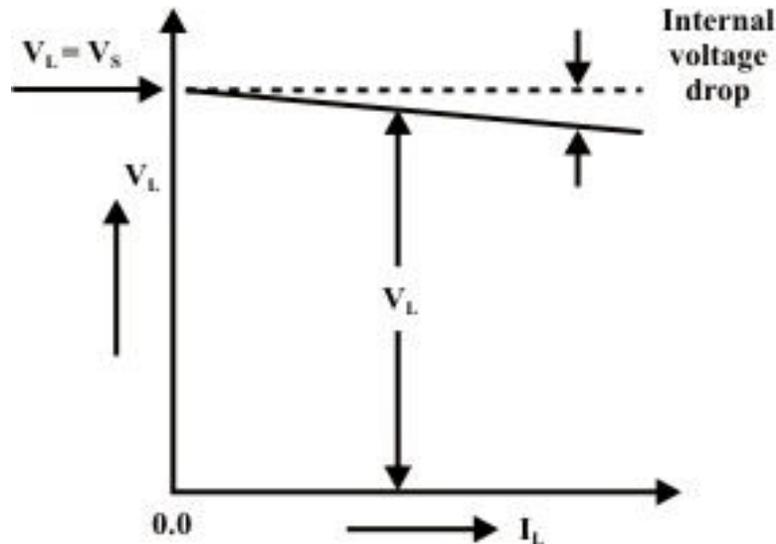

Fig 16: VI characteristic of practical voltage source
- Another two-terminal element of common use in circuit modeling is 'current source' as depicted in Fig 16. An ideal current source, which is represented by a model in Fig 17(a), is a device that delivers a constant current to any load resistance connected across it, no matter what the terminal voltage is developed across the load (i.e., independent of the voltage across its terminals across the terminals).